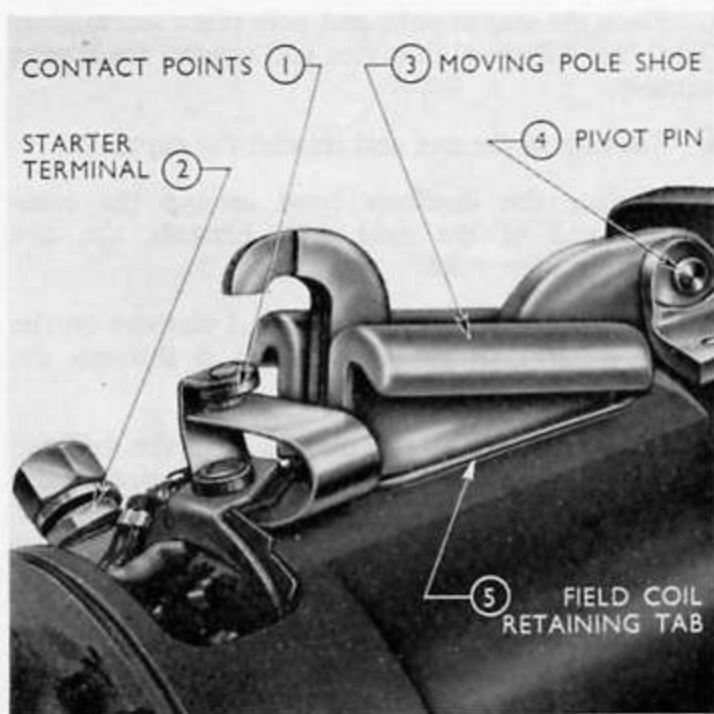

Fig. 16
The starter motor is mounted at the side of the flywheel housing on the left-hand side of the engine. It is of the pre-engaged type incorporating a moving pole shoe solenoid (see Fig. 16).
7. Push out the moving pole shoe pivot pin and lift off the pole shoe (see Fig. 16).
2. The field coil that operates the moving pole shoe is retained in the starter by a metal tab. Bend up the tab and remove the retainer (see Fig. 16).